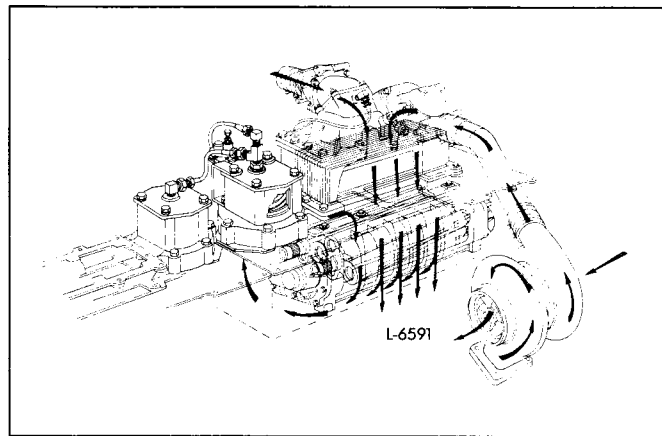

Fig. 3 - Air Flow Schematic — Current Piston Style Blower Bypass Valve-Equipped Engine
- Effective with unit serial numbers 8E02594, 12E08925, and 16E08960, this “flapper” style blower bypass valve system was replaced by the piston style blower bypass valve system (Fig. 3).